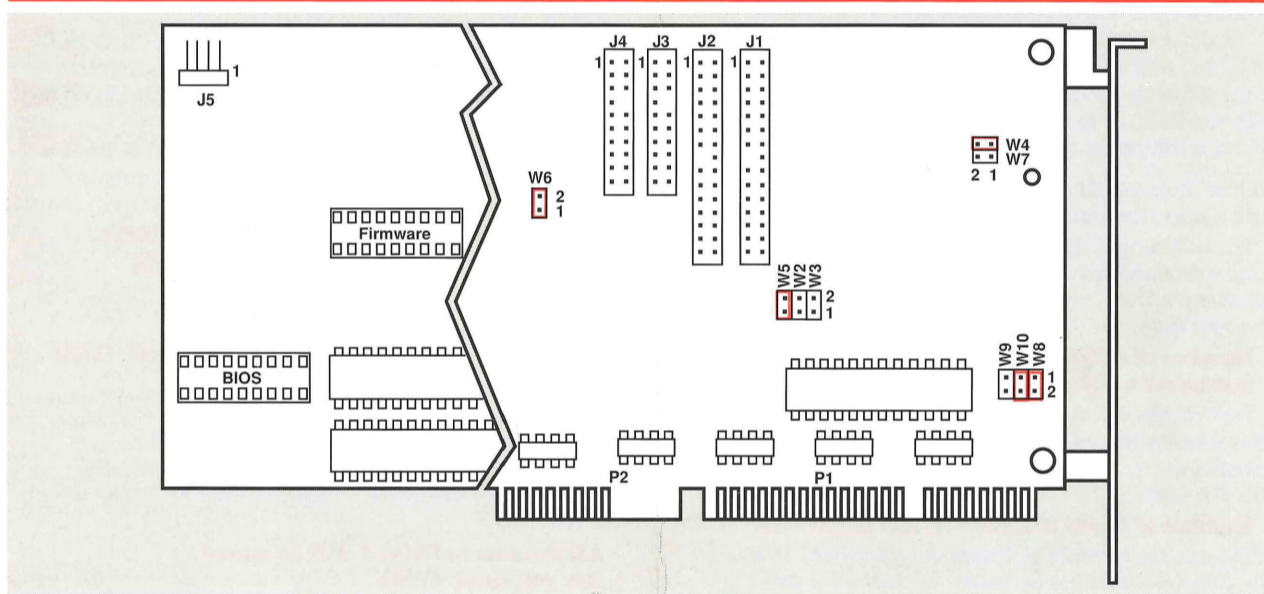

Figure 1. DTC7287 Switch and Jumper Locations
The DTC7287 can be configured to your specific system environment via the seven jumpers listed below. Set the jumpers according to your system requirements prior to installing the board in the computer. Please refer to Figure 1 for jumper locations. For a quick summary of the jumper settings, refer to Table 1.
- Install the 4-pin drive light connector from the front panel of the system to the J5 connector. Refer to Figure 1 for the J5 location.
The DTC7287 controller has four cable connectors: J1, J2, J3, and J4. The connector locations and Pin 1 orientation for these connectors are shown in Figure 1. The colored edges of the ribbon cables must always be aligned with Pin 1 of both the controller board(s) and the disk drive(s).
The hard drives are connected with the J2, J3, and J4 connectors. The connector locations and Pin 1 orientation for these connectors are shown in Figure 1. The colored edges of the ribbon cables must always be aligned with Pin 1 of both the controller board(s) and the disk drive(s). Table 2 summarizes the Drive Select settings for connecting two hard drives.